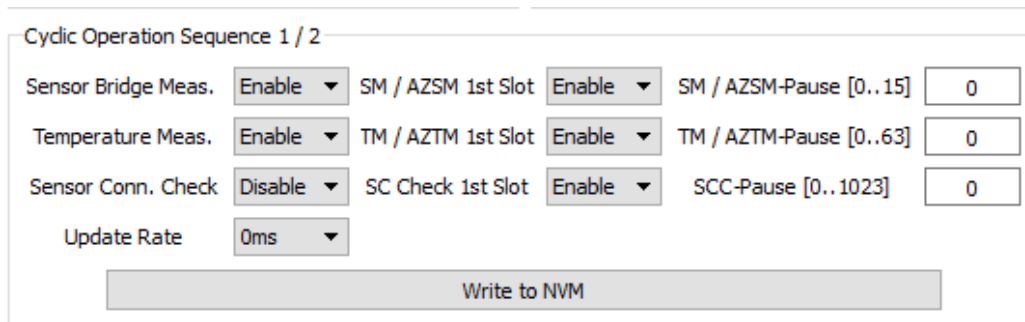

Figure 9. Scheduler for Cyclic Operation
1. Set the Cyclic Operation Sequence according to Figure 9 and save the configuration clicking the “Write to NVM” button.